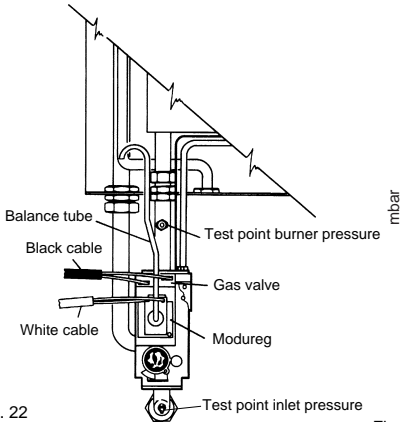

Fig. 22
- Loosen the screw in the burner pressure test point (fig. 22) and attach a gauge.
- e. Disconnect one of the wires from the «Modureg» (fig. 22), this will reduce the burner to minimum which should read 2.7 mbar \pm 0.5 mbar. If the burner pressure is not as stated check the inlet working pressure (fig. 22) which should be minimum 20 mbar. If that is correct, consult Ferrolti. No attempt should be made to alter D.H.W. burner pressure.